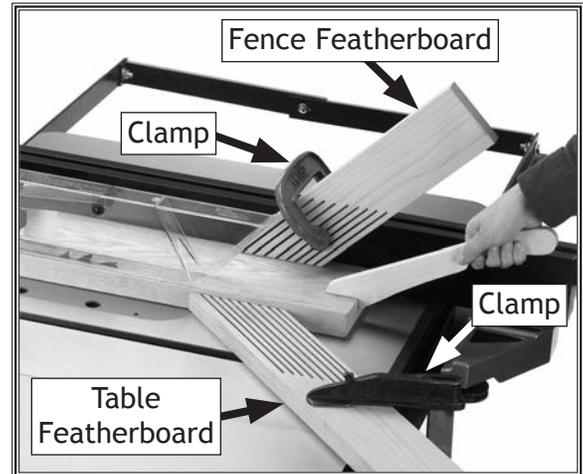

Figure 82. Example of featherboards secured with clamps.
3. Place a featherboard on table away from blade so all fingers point forward and contact workpiece (see **Figure 82**).